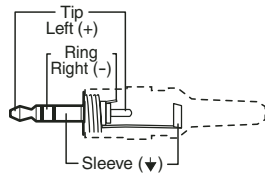

Figure 5. 3.5 mm Stereo Audio Plug
- For component video, use the R (R-Y) and R return pins (pins 1 and 6), G (Y) and G return pins (pins 2 and 7), and B (B-Y) and B return pins (pins 3 and 8). For S-video, use the R, R return (C-chroma), G, and G return (Y-luma) pins.
- ③ **Monitor connector** — Connect a video monitor to this 15-pin HD connector for buffered, high resolution video loop-through.
- ④ **Audio input connector** — Plug a 3.5 mm stereo audio plug into this connector for unbalanced audio input. Wire the plug as shown in figure 5. The stereo audio input is summed and output on the twisted pair cable as mono audio.